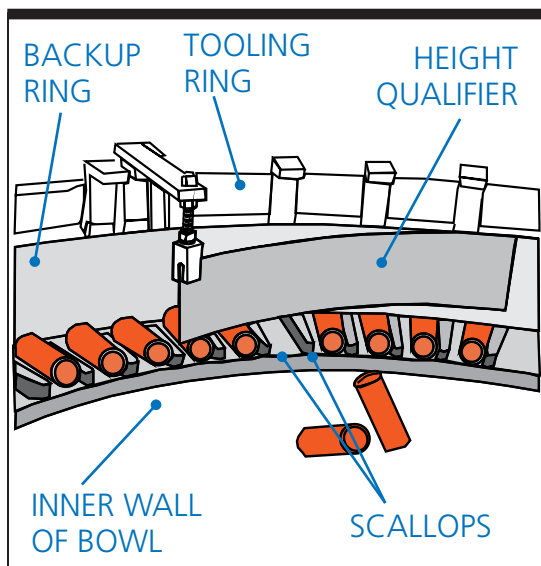

Figure 1-2. Qualifying Parts in Scallops
Step 2—The FS-30-RD Feeder Loads and Qualifies Your Parts. After dropping onto the rigid disc, parts load quickly onto the scalloped rim of a rotating bowl. The parts singulate between scallop fingers which help orient the parts (see Figure 1-2).